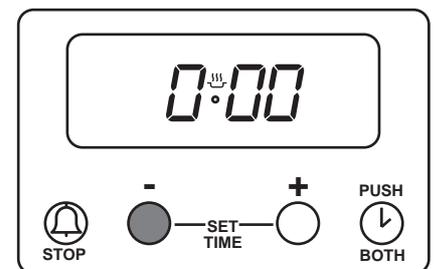

Fig. 10
Press and release button (1). Then press and hold button (1) and the display will count down in one minute intervals to 0h:00. See Fig. 10. Release button (1).